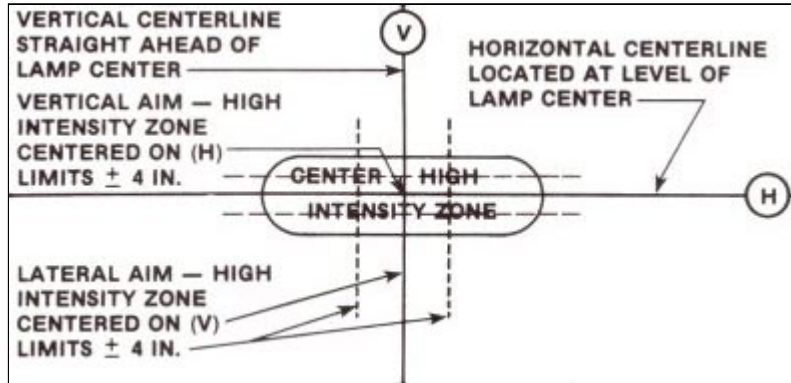

FIG. 2 - AIM INSPECTION LIMITS FOR UPPER BEAM OF:
If floor slopes 2" away from the screen and the center line height (D) is 30", you must add 2" or place (B) at 32" on the screen (Fig. 2)